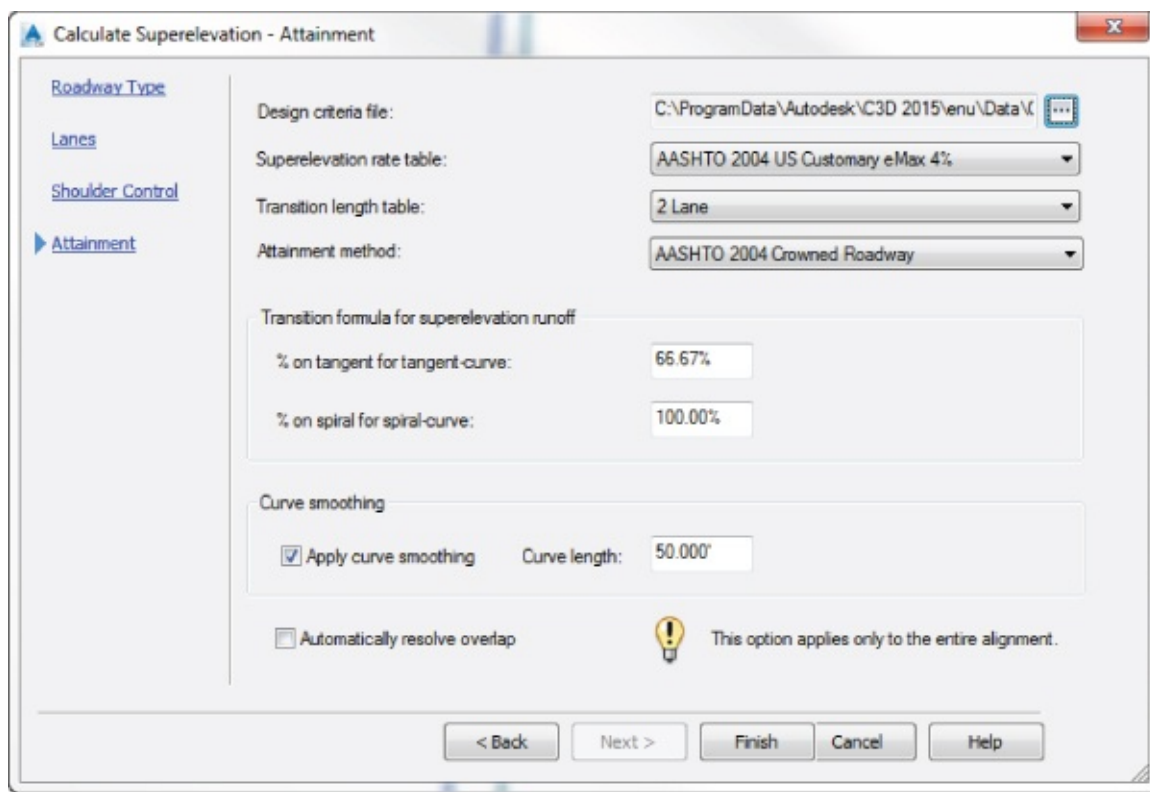

Figure 11.16 Finalizing the superelevation on the Attainment screen
19. Leave all other settings at their defaults, as shown in Figure 11.16.